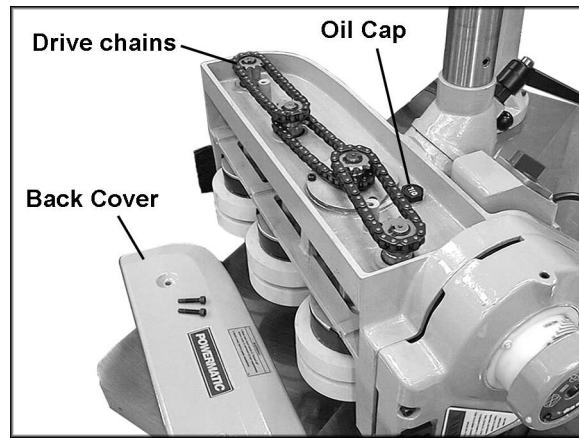

Figure 19
1. Pivot the Stock Feeder so that the rollers are facing down. See Figure 19.
2. Unscrew and remove the two socket head cap screws on the back cover with a 5mm hex wrench, and remove the back cover (Figure 19).
3. Unscrew the oil cap (Figure 19) and pour a good quality general purpose oil into the hole. Do not overfill.
Lubricate the drive chains (Figure 19) with good quality all-purpose grease every 3 months, or more frequently if needed.